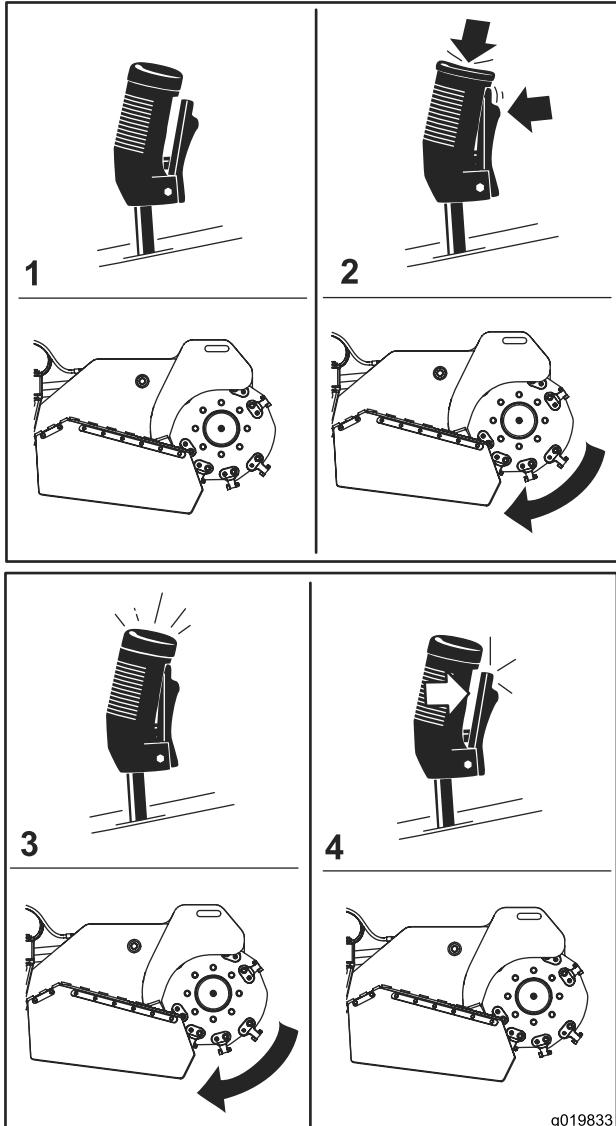

Figure 13
- To start the grinder (Figure 13), press the red button on the top of the lever, then squeeze the trigger. Once the grinder has started, you can release the red button.
- To stop the grinder (Figure 13), release the trigger for more than a half second.